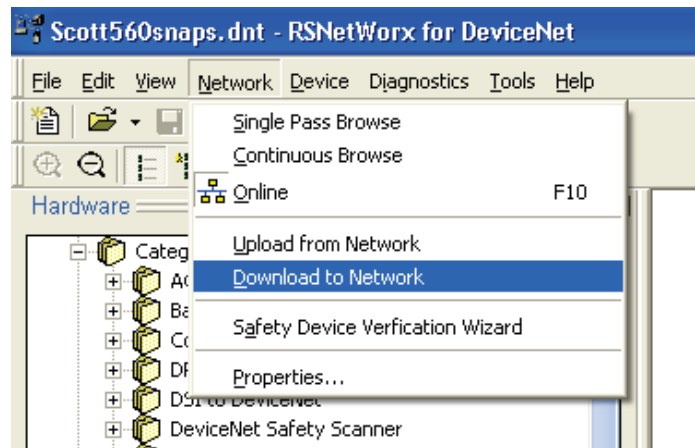

Figure 3-20: Network Download Confirmation Prompt
10. Download the configuration to the scanner card, in order to commission the network. In the prompt that appears (Figure 3-20), click **Yes** to continue. Note that some scanner cards may require power down for changes to take effect.